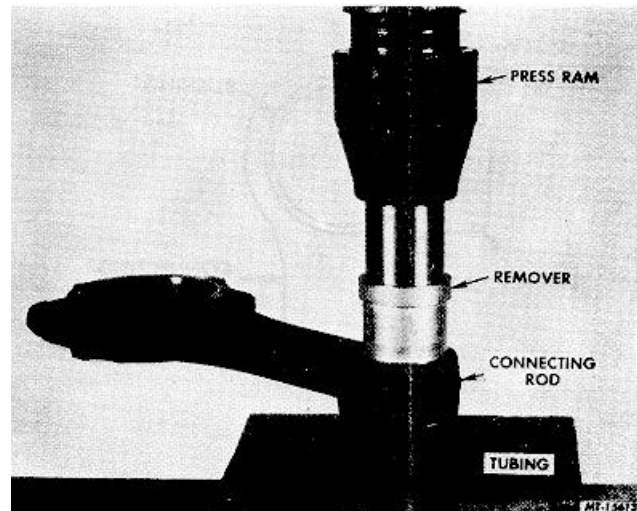

Fig. 111 Removing Piston Pin Bushing from Connecting Rod
- a. Insert remover end of SE-2417 remover/installer tool into bushing. Position tool and connecting rod in press using a piece of tubing 5.08 cm (2") O.D. x 4.4 cm (1.75") I.D. x 5.08 cm (2") long as a support (Figure 111). Press bushing out of rod.